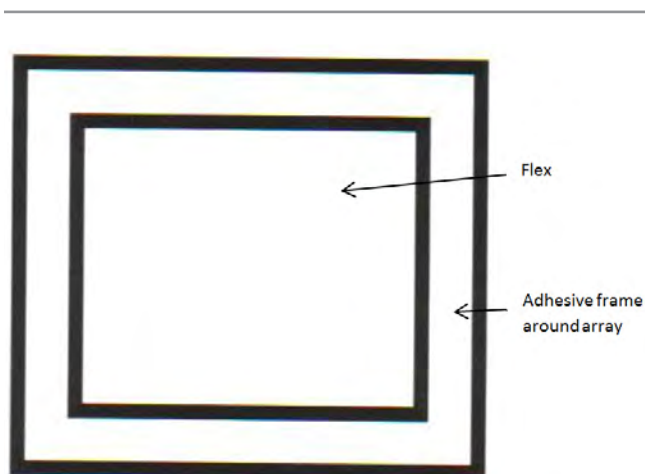

Figure 1: Array option with adhesive frame bonding the flex array to FR-4 for assembly.
1. For a small flex, with a few components on just one side and no stiffener requirements, consider creating an FR-4 stiffener pallet with adhesive on the outside perimeter only (Figure 1). After assembly, the flex can easily be peeled away from the stiffener pallet. Caution: a stiffener pallet with adhesive in selected areas only can easily be misunderstood during fabrication. Make the objective very clear in the fabrication files.